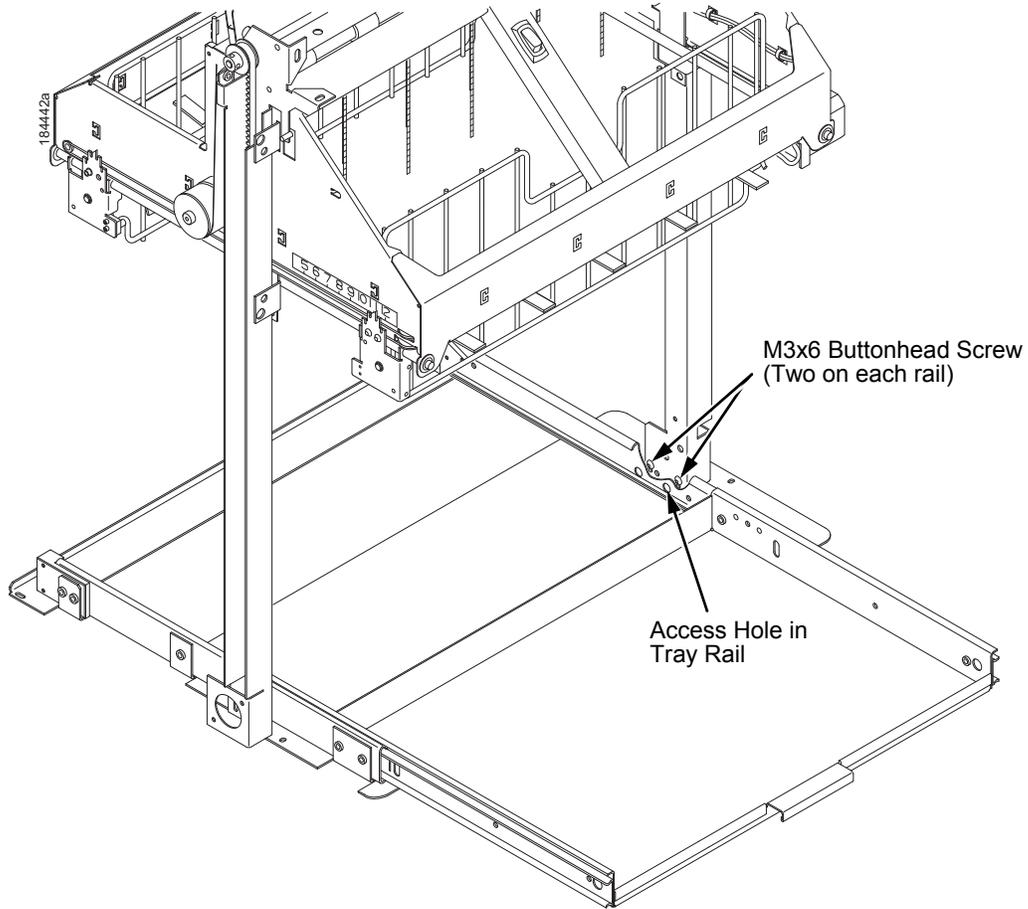

Figure 9. The Lower Screws in the Vertical Rails
9. Pull the paper tray out until the holes in the rails permit access to the M3 buttonhead screws. (Figure 9.)
10. Loosen one turn (do not remove) the M3x6 screws securing the vertical rails to the stacker base. Each rail is secured by two screws. (Figure 9.)